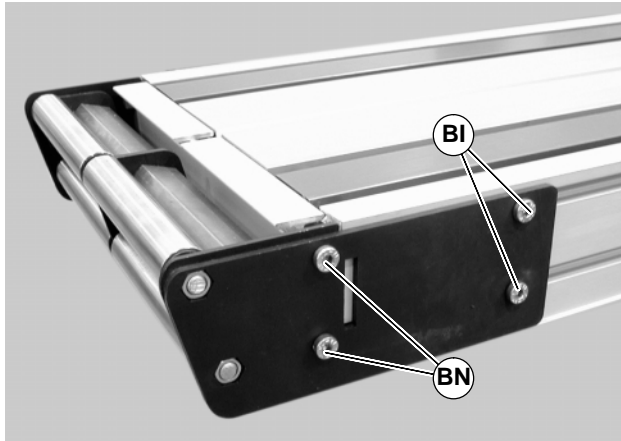

Figure 53
2. On one side of conveyor, loosen the two (2) back fastening screws (BI of Figure 53), and remove the two (2) front fastening screws (BN).